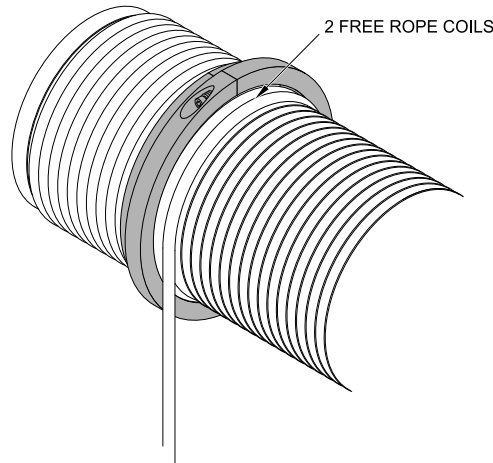

Figure 42 – Rope Guide Inner Band Fitted
- Position the inner band assembly over the rope such that 2 free rope coils remain unclamped and tighten the capscrew on the spring side 1.5Nm (see Figure 42).